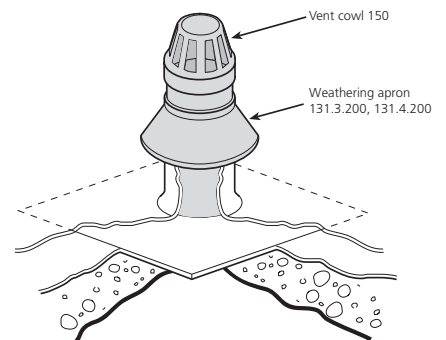

Fig.22b Steps 3/4
**Step 3** – Slide **131 Weathering Apron** over stack and solvent-weld in position (Fig.22b)